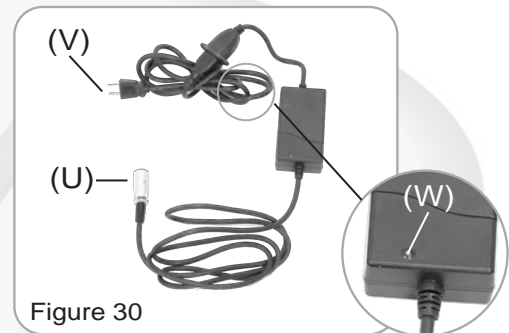

Figure 30
- Output Voltage: 100V~240V (Figure 30)
- 1.Charger output cable, 3pins  connector (U)
- 2.AC power cord (V)